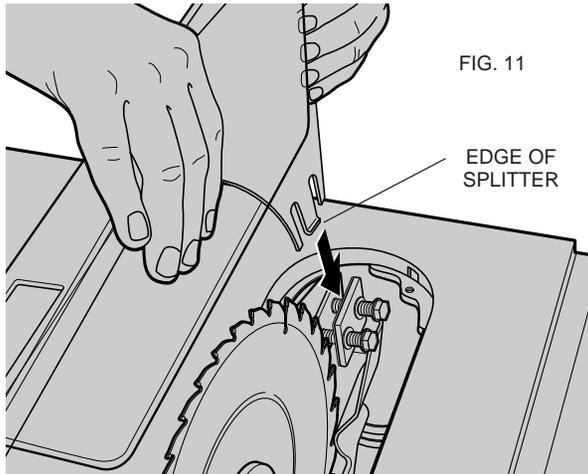

FIG. 11
3. Insert the blade guard as shown in Figure 11, ensuring the bolts fit into the slots on the blade guard. The edge of the splitter should protrude below and hook under the shims. Tighten the bolts. Make sure the splitter is centered and parallel to the blade by lining up the parts with a straight edge. If the blade and splitter are not aligned, loosen, but do not remove the bolts again. Remove the guard and reinsert it after adjusting the shims. These shims allow for precision alignment of the blade and splitter. Tighten the bolts securely. Make sure that there is clearance between the splitter and the blade, and that the blade spins freely. If the splitter is tilted relative to the blade, the splitter plate can be bent until it lines up correctly.